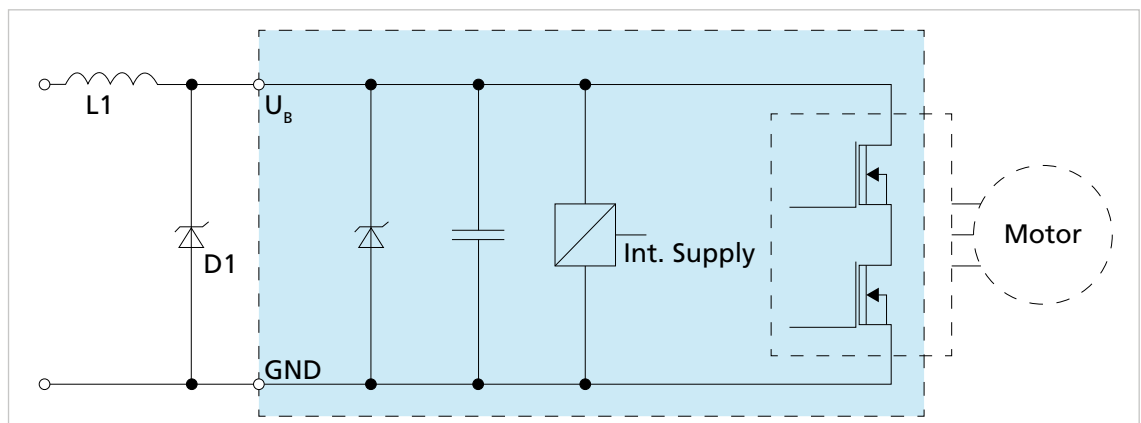

Fig. 7: EMC suppressor circuit
- ▶ In the case of a separate electronics supply, the suppressor circuit (see Fig. 7) must be such that it protects both supply connections.